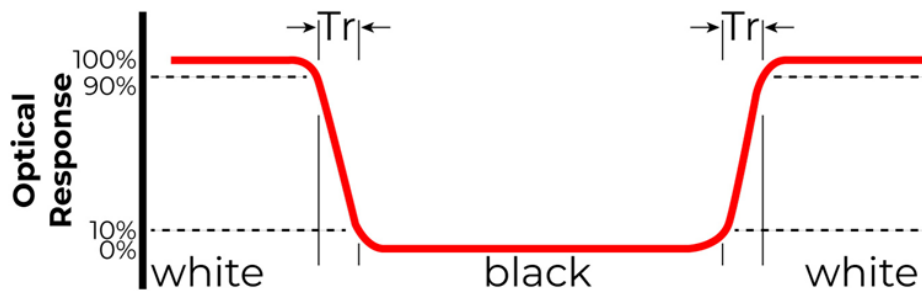

Figure 1. The definition of response time
| Response Time              | Tr+Tf             |   | -     | 30    | -     | ms                | FIG 1. | 4    |
**Note 4.** Response time is the time required for the display to transition from white to black (Rise Time, Tr) and from black to white (Decay Time, Tf). For additional information see Figure 1. The test equipment is BM-7A.